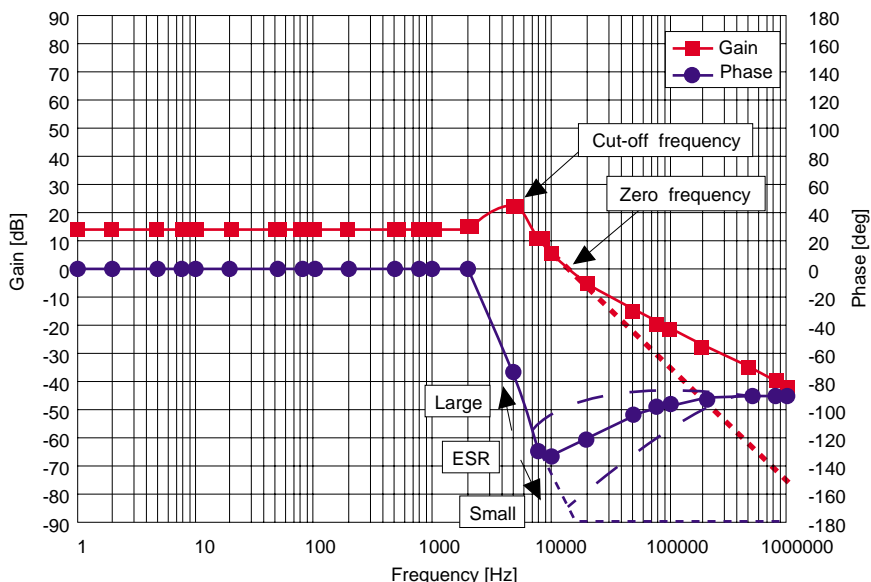
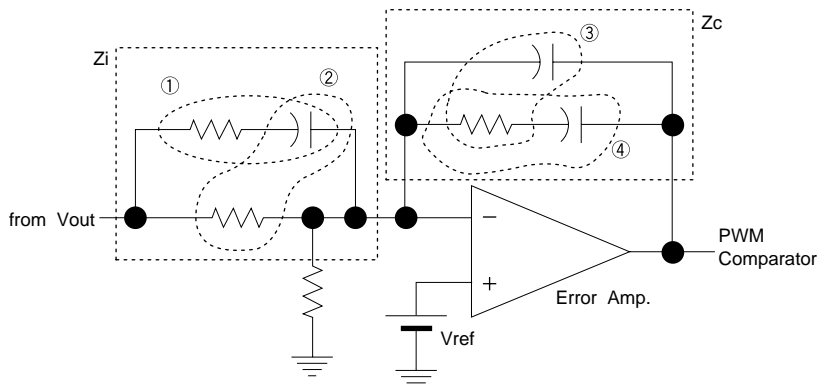
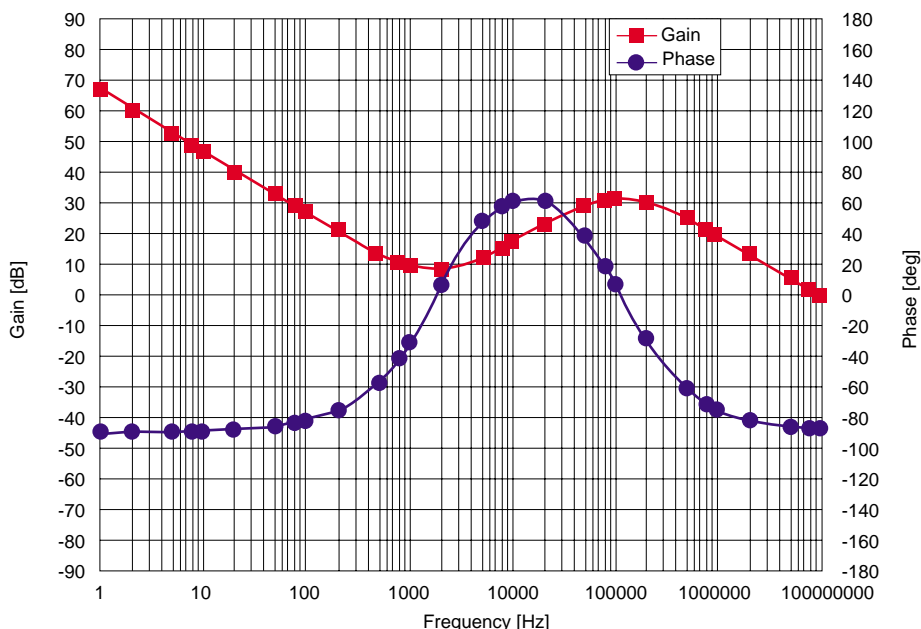

Fig.2 Frequency characteristic of LC filter
Fig.3 Phase compensation network of Voltage Control Mode
Fig.4 Frequency characteristic of Phase Compensation Network
The frequency characteristic of the output LC filter is expressed with the Bode diagram like Figure 2. On the other hand, the phase is delayed 180 degrees originally, because the error amplifier is a negative feedback circuit. Therefore, the phase delay of the output LC filter and the error amplifier occur at the same time, and when 360 degrees delay occur, the output voltage oscillates.
Let's think about an ideal LC filter. The damping rate of the LC filter is -40dB/dec and the cut-off frequency becomes $\frac{1}{2\pi\sqrt{LC}}$, and become Gain and Phase like the dotted line of Figure 2.
Figure 3 shows that ② and ④ form first order Phase lead network and ① and ③ form first order Phase lag network. By adjusting these values, it dose the Phase compensation by which Phase will occur and improve Phase delay of the whole negative feed-back circuit by the frequency characteristic of output LC filter at the frequency band which the Phase indicates the lowest. Figure 4 is the example. As the Phase of the output LC filter of Figure 2 becomes a lowest point at around 10kHz, it has about 30 degrees of Phase lead around that frequency. Because of this, it can secure the Phase margin of 30 degrees even if the Phase delay of LC filter becomes 180 degree nearly, the oscillation of output voltage can be inhibited.